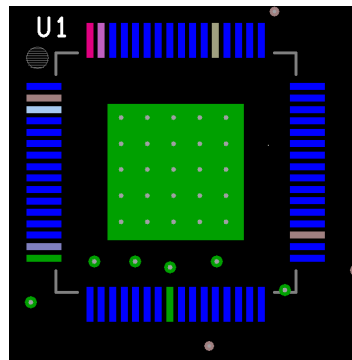
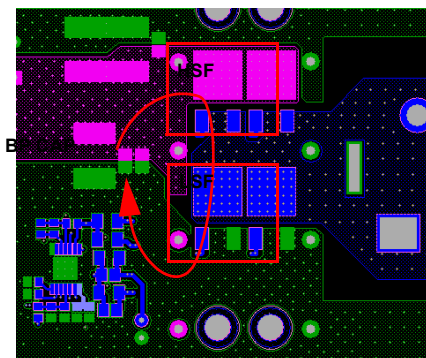

Figure 141. Recommended Layout Pattern for Vias on the IC Bottom Pad
Figure 143. Recommended Layout Pattern for Phase Node
- (1) Place input ceramic capacitors as close as possible to the VIN and AGND/PGND pins of the IC.
- (2) Place high quality ceramic bypass capacitors as close as possible to the power MOSFET stack from BAT48 to GND, see Figure 143. Keep this loop (ceramic bypass capacitors and MOSFET stack) as small as possible for each phase to reduce voltage spikes induced by the trace parasitic inductances when the MOSFETs are switching ON and OFF.
- (3) Place aluminum electrolytic capacitors across BAT48 close to the power MOSFET stack as well.
- (4) Keep the phase node copper area small in order to minimize capacitive coupling, but large enough to handle the load current and heat sinking requirements.
- (5) Place aluminum electrolytic and some ceramic capacitors close to the BAT12 side of the inductors and lower power MOSFET sources.
- (6) Place multiple vias under the thermal pad of the IC. Connect the thermal pad to the ground copper plane with as large an area as possible in multiple layers to effectively reduce the thermal impedance. Figure 141 shows the layout example for vias on the IC bottom pad.
- (7) Place a 10 μ F ceramic decoupling capacitor from the PVCC pin to GND as close as possible to the IC. Place multiple vias close to the ground pad of this capacitor.
- The most major example of an aggressor trace is the phase node(s). They carry both high switching current and voltage, and with fast transition rates. The major components of the phase node are two FETs and an inductor. Trapezoidal current flows alternately from each of the FETs to the inductor. The inductor current is a triangular combination of the two trapezoids. Consider two current loops, one when the high-side FET is on and the other when the low-side FET is on, see Figure 143. When the high-side FET is on, provide for a local source of current from a bypass capacitor. Connect this local input voltage source capacitor, the input side to the drain of the high-side FET, and the ground side to the source of the low-side FET. Minimize the impedance of this node to the ground side of the output capacitors by using a ground plane. The area of the phase node must be kept small to minimize capacitive coupling to other nodes, but large enough to dissipate heat from the power processing components. Do not route potential victim traces near any phase node.
- Place multiple vias under the thermal pad of the IC and connect them to all of the available ground planes. Each parallel via represents a thermal conductor and an electrical admittance. Use them liberally, see Figure 141 on page 142.